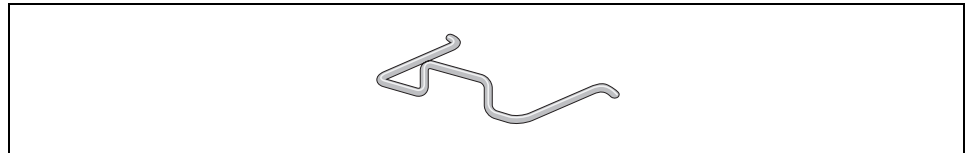

Figure 12. Power Cord Retaining Clip
1. Locate the power cord retaining clip, shown in Figure 12 in the shipping kit that comes with the media converter.